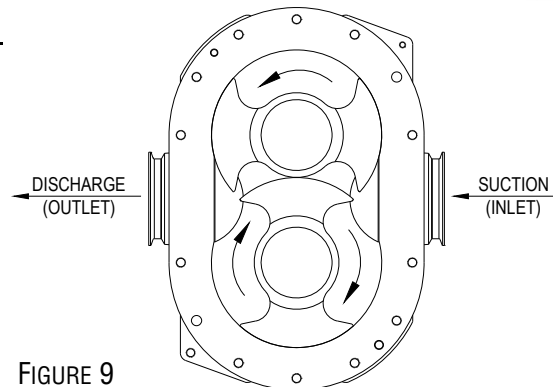

FIGURE 9
- Check for proper pump and drive rotation (Figures 9 & 10). Make sure that the pump is flooded with product when checking the rotation. Running the pump dry even momentarily can cause seal damage.